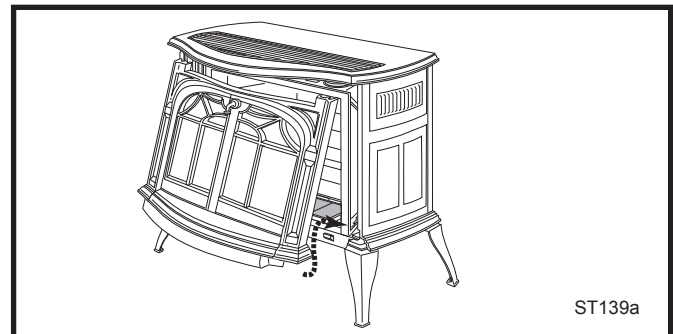

Fig. 25 Replace the front panel.
2. Replace the stove front by grasping it by the left and right edges. Lift it so that tabs on the back side of the top corners engage notches at the top forward corners of the stove sides. Then gently swing the bottom of the front panel to a vertical position, and lower it till prongs on its bottom left and right corners engage with notches cast into the tops of the forward legs. (Fig. 25) Test that the front is installed securely by grasping two of panel's vertical bars, and pulling the panel toward yourself. When the panel is in place properly you should not be able to pull the bottom of the front toward yourself without also lifting it.